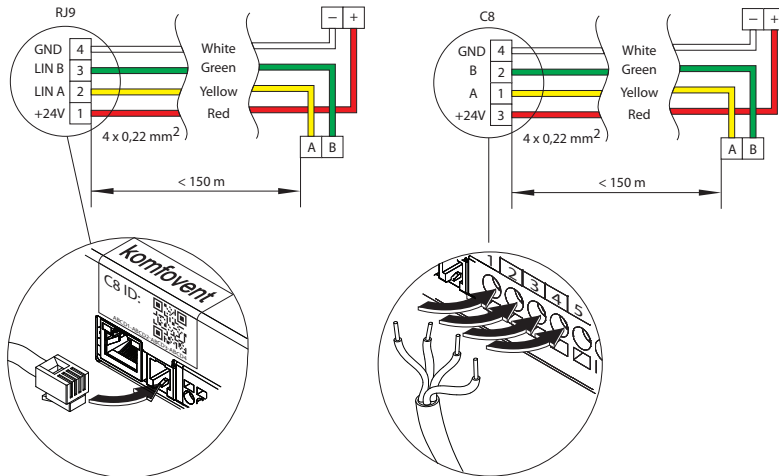

Fig. 16. Control panel cable wiring diagram
- Control panel (see. Fig. 16)
- **Outputs TG1 (6–8)** – Power supply and control signal for a water mixing valve actuator of the external heat exchanger or direct evaporation (DX) cooler/heater. Depending on the “External coil” type selected in the settings (see “Domekt User Guide”), the valve actuator will be controlled by a heating or cooling signal. An external pre-heater for frost protection of the CF heat exchanger may also be connected here.
Control panel cable is connected to the C8 main board as shown in Fig. 16. The exception is the R 200 V unit, where, if needed, the panel cable can be also connected to an external RJ10 connector.